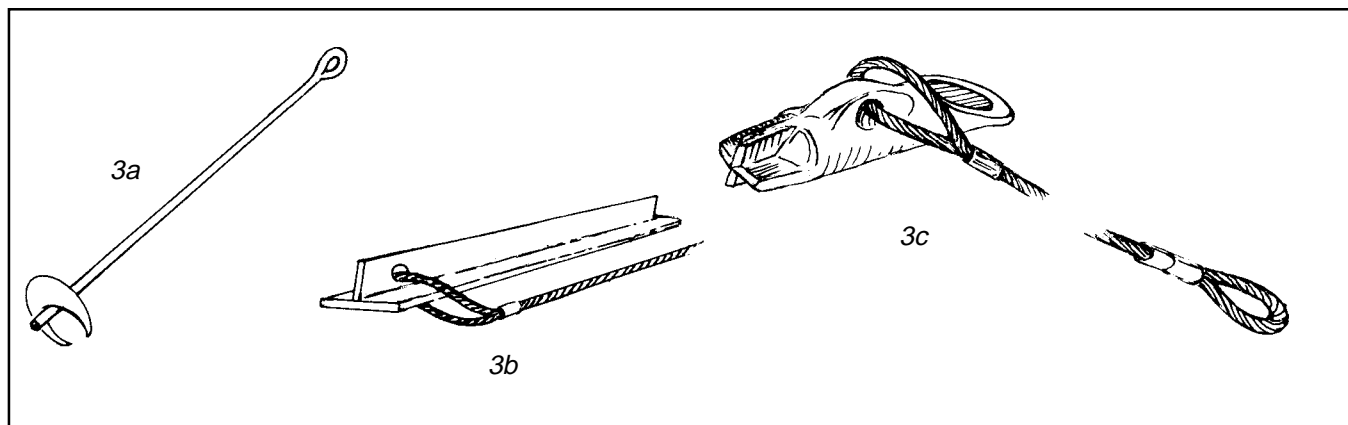

Figure 3. (a, b & c) Types of Anchors
- *Disk anchors* (Figure 3-a) are
- **T-posts** (Figure 3-b) can also be purchased at farm supply stores. These fenceposts are best used on small streams. They can be driven all the way into even rocky banks with a sledge hammer or a T-post driver. Metal caps are available which make driving posts with a sledge hammer easier. Attach a cable to the end below the flange before driving it in.
- **Duckbill earth anchors** (Figure 3-c) are available from fencing vendors, and nursery and forestry suppliers. Duckbill anchors come in two sizes and are available with or without a cable attachment. The anchors are installed with a drive rod or rebar and can be driven into even rocky soils (see Figure 4). When the anchor is driven most of the way in, thread the wrapping cable through the cable attachment's top loop. Finish driving the anchor far enough into the streambank so that the cable attachment is no longer visible, generally about 2.5 feet. Then jerk the cable with a handyman jack or other type of lever system. This turns the anchor